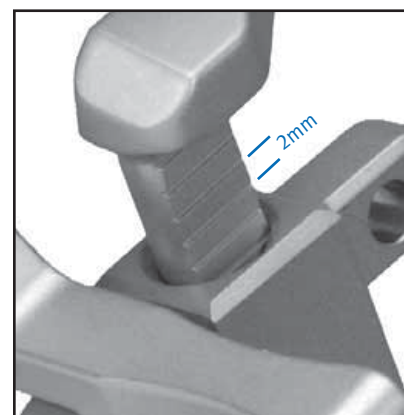

Fig. 5n
**Note: The grooves on the stem of the Tibial Cut Guide represent 2mm increments (Fig. 5n).**